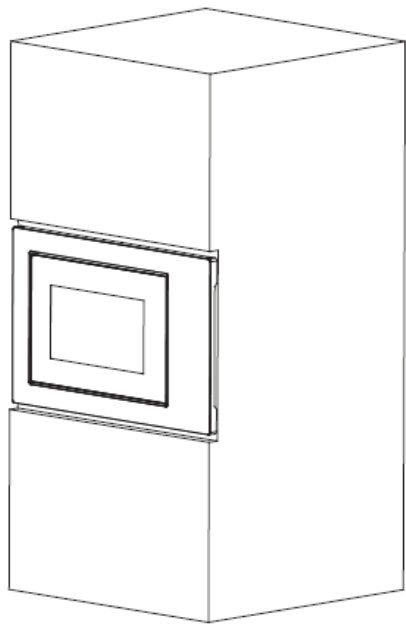

Fig.2
**2- Push the microwave oven fully forward until it stops. (Fig. 2)**